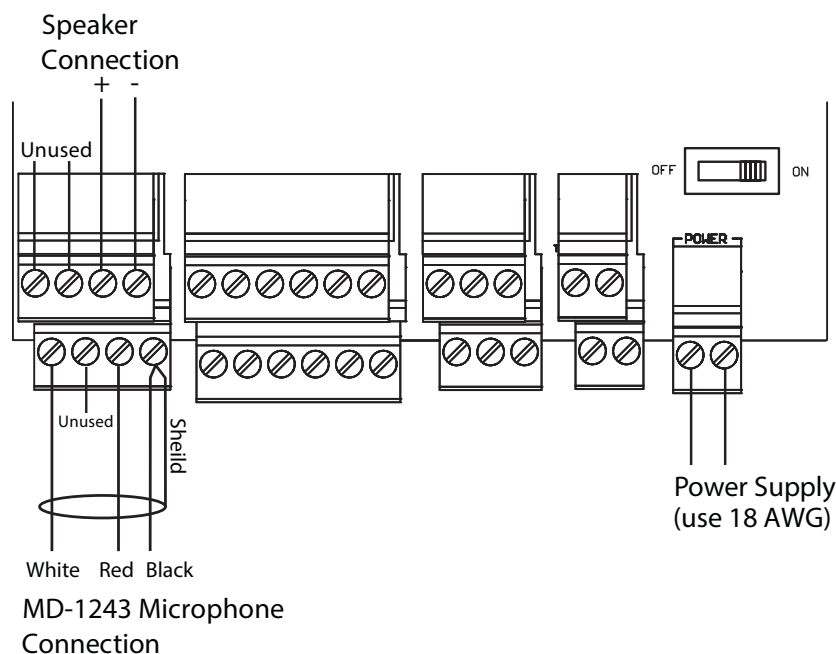

Figure 3 Speaker, microphone, and power connections
2. Connect the speaker and microphone as shown in Figure 3.